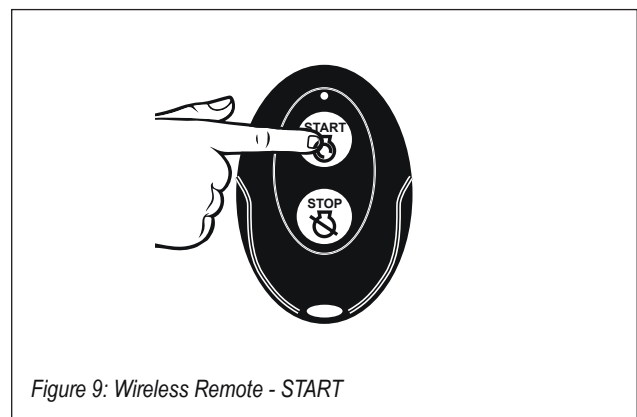

Figure 9: Wireless Remote - START
5. Push the START icon on the wireless remote. (see Figure 9).